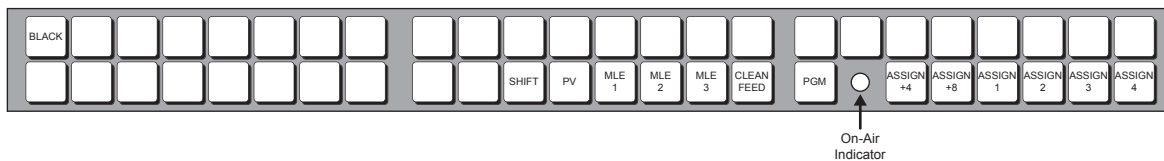

Figure 11.1 On-Air Indicator (Tally)
7. Press **Remote Panel Setup** on the **Remote Panels Menu**. This places all the Remote Aux Panels connected to the switcher into assignment programming mode. The red **On-Air** indicator on the Remote Aux Panels flash (**Figure 11.1**).